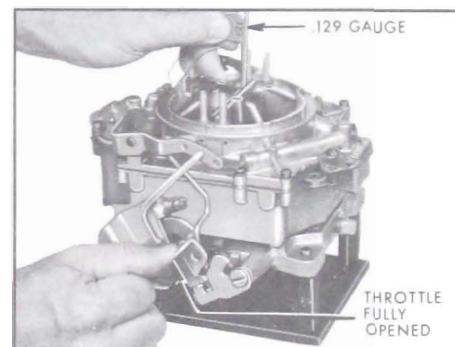

Figure 3-57—Checking Choke Unloader Adjustment
3. Choke Unloader Adjuster. Fully open throttle so that throttle arm contacts unloader tang on fast idle cam, then check clearance between choke valve and air horn dividing wall, using .129" Gauge (No. 30 drill). See Figure 3-57.